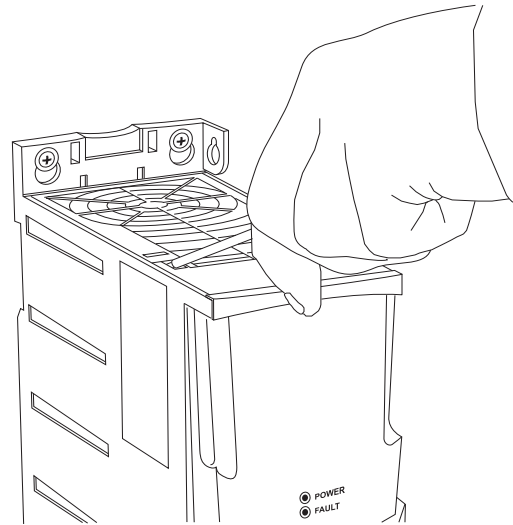

Fig. 36 — Remove Top Cover on ACS320 VFD
2. Insert a small straight blade screwdriver into the slot and press in to release the top cover as shown in Fig. 36.